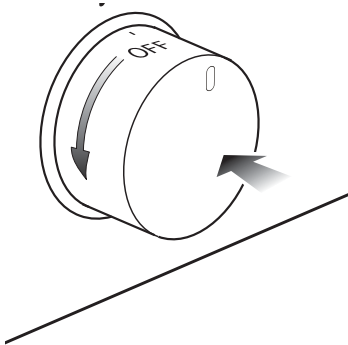

Fig. 2.4
1. Push and turn the dial in an counter-clockwise direction to the position **HI** (maximum rate of inner + outer crown); push in and hold the dial until the flame has been lit (fig. 2.4).
2. Push and turn the dial in an counter-clockwise direction up to the position **HI** (maximum rate of inner + outer crown); push in and hold the dial until the flame has been lit (fig. 2.4).